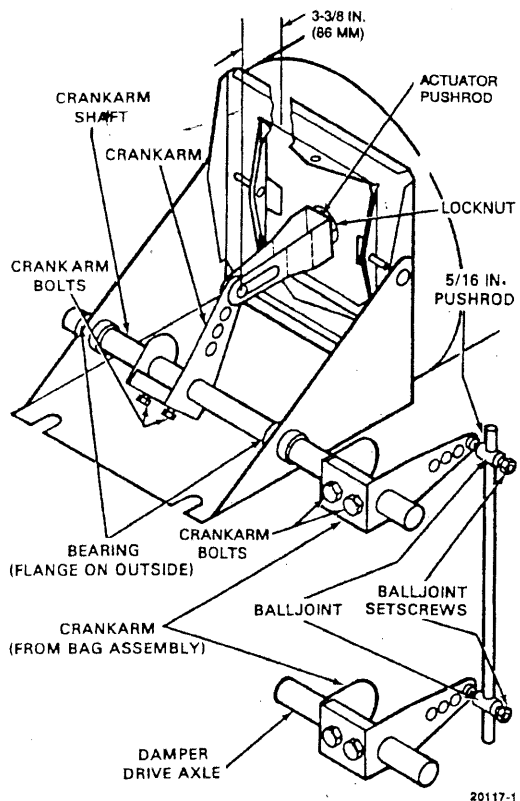

Fig. 21. Alternate Top Mount Crankarm Installation.
5. Loosen locknut and screw or unscrew actuator pushrod to dimension shown in Figure 21. Tighten locknut.
6. Fit white plastic bearings into place (Fig. 21) with flange on outside of mounting bracket.
7. Slide crankarm shaft through crankarm connected to actuator pushrod (Fig. 21).
NOTE: Crankarm shaft can be extended to either side (Fig. 21).
8. Tighten bolts on crankarm connected to actuator pushrod (Fig. 21).
12. Connect one crankarm from the bag assembly to the extended end of the crankarm shaft (Fig. 21).
13. Connect the remaining crankarm to the damper drive axle (Fig. 21).